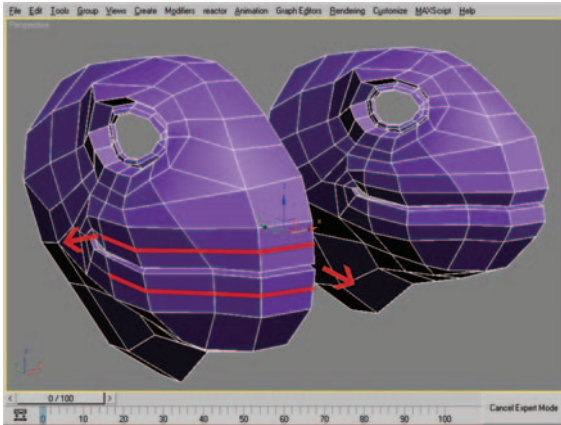

Figure 9.32 Edge selection (left) and result after moving edges (right).
33. Select and move the edges shown in Figure 9.32 to create a curved shape to the lip area.